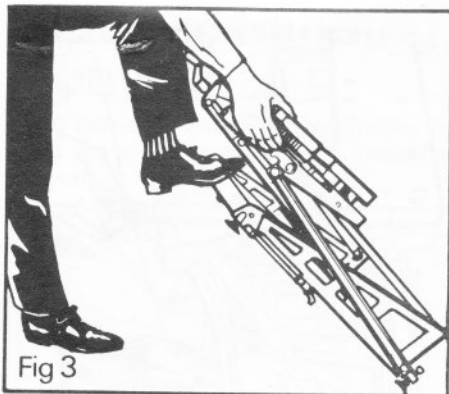

Fig 3
- 3 Place one foot on the base board boss and exert a downward pressure to open the Workmate keeping both retainer latches in the lifted position, see Fig. 3.